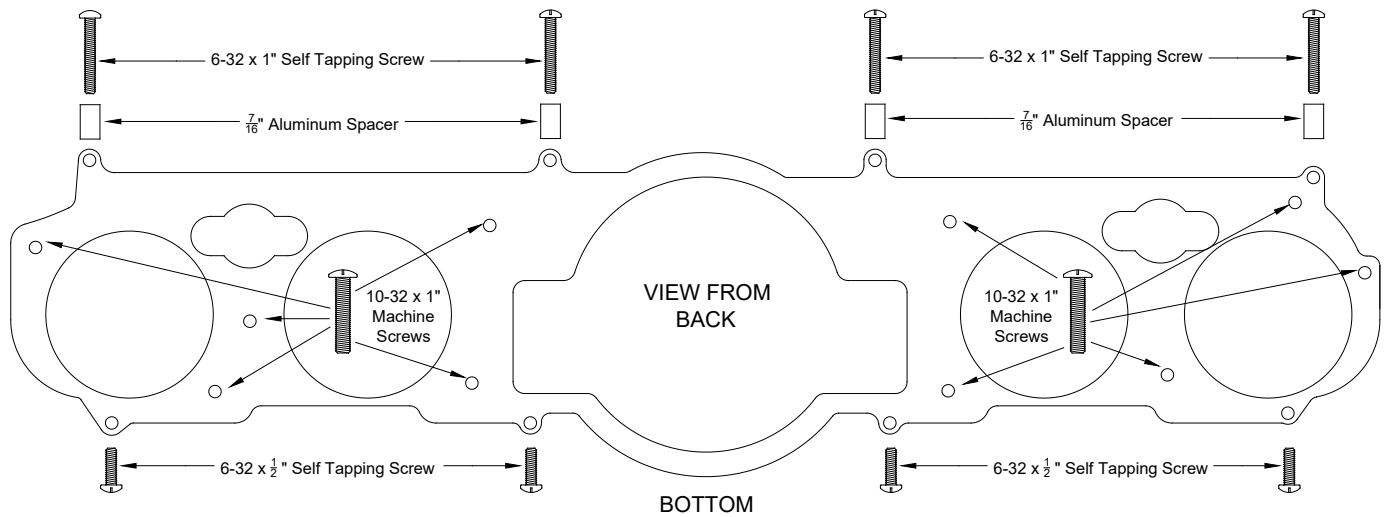

Figure 3: Mounting Panel
- Use a #1 Phillips screwdriver to secure the mounting panel to the plastic gauge bezel with the 6-32 F-type self-tapping screws. The $\frac{1}{2}$ " long screws secure the bottom of the panel and the 1" long screws secure the top of the panel. Place the $\frac{7}{16}$ " aluminum spacers between the mounting panel and the plastic gauge bezel on the top four mounting holes. See Figures 3, 4 & 5.